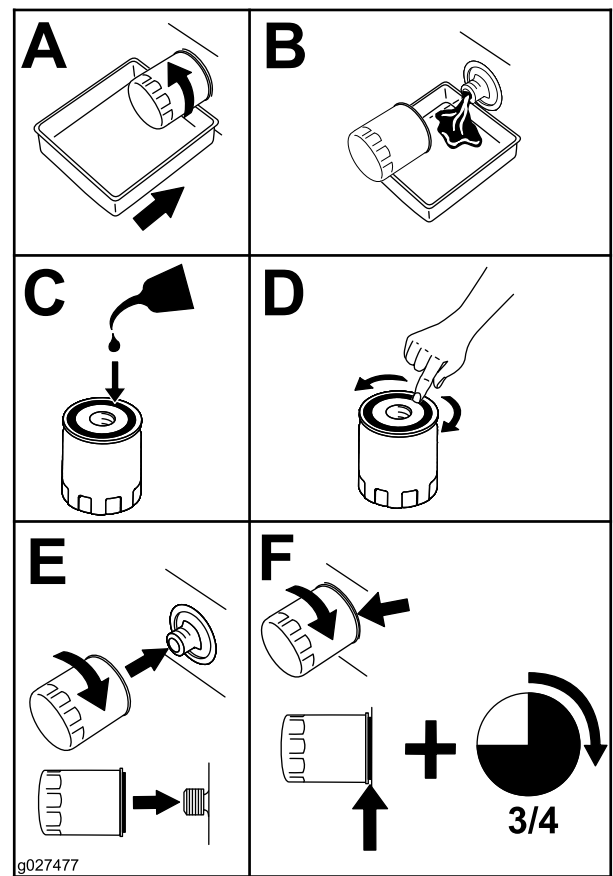

Figure 43
6. Replace the engine-oil filter as shown in Figure 43.